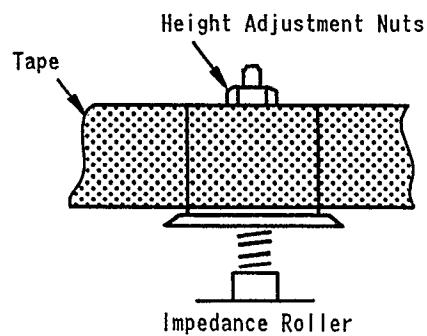

Fig. 5-4.
- If any curling or defects are noted, adjust tape guide roller and impedance roller first. In this case, adjust the impedance roller both PLAY and REV modes so that tape runs as shown in Fig. 5-4.